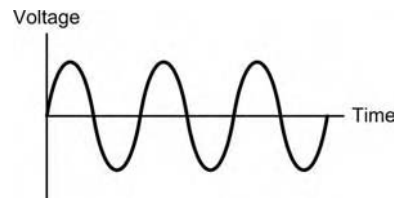

Figure 5.215
85. Figure 5.215 shows an AC waveform. The waveform is a: [A, B1, B2]